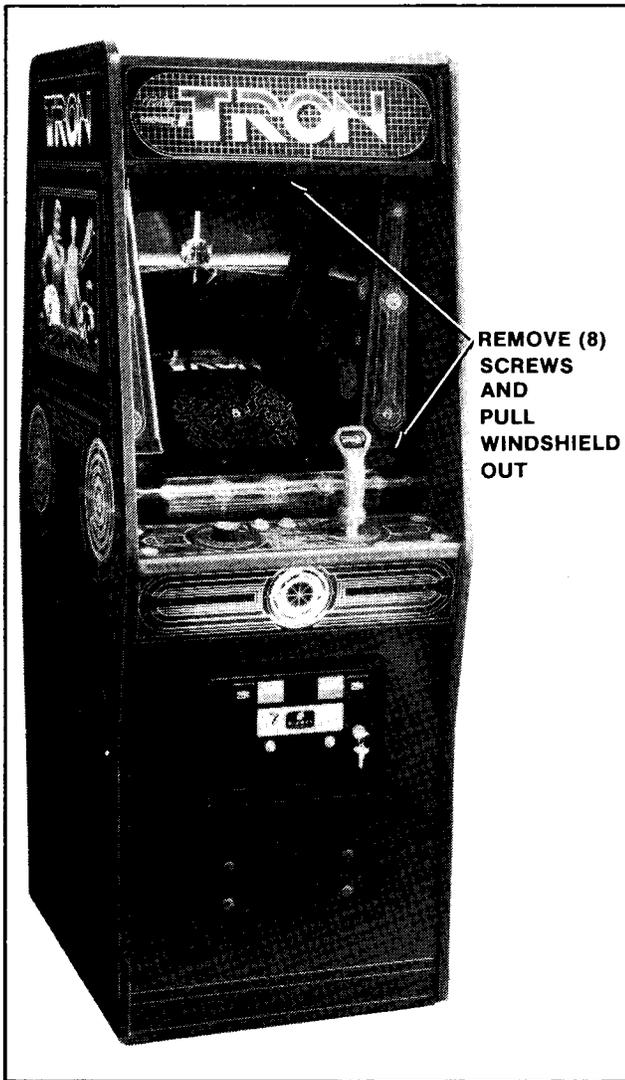

Figure 4-5 Removing Windshield & Windshield Retainers — Upright
- Remove the screws securing the windshield retainer and the windshield in place as shown in Figure 4-5 and lift out the windshield.